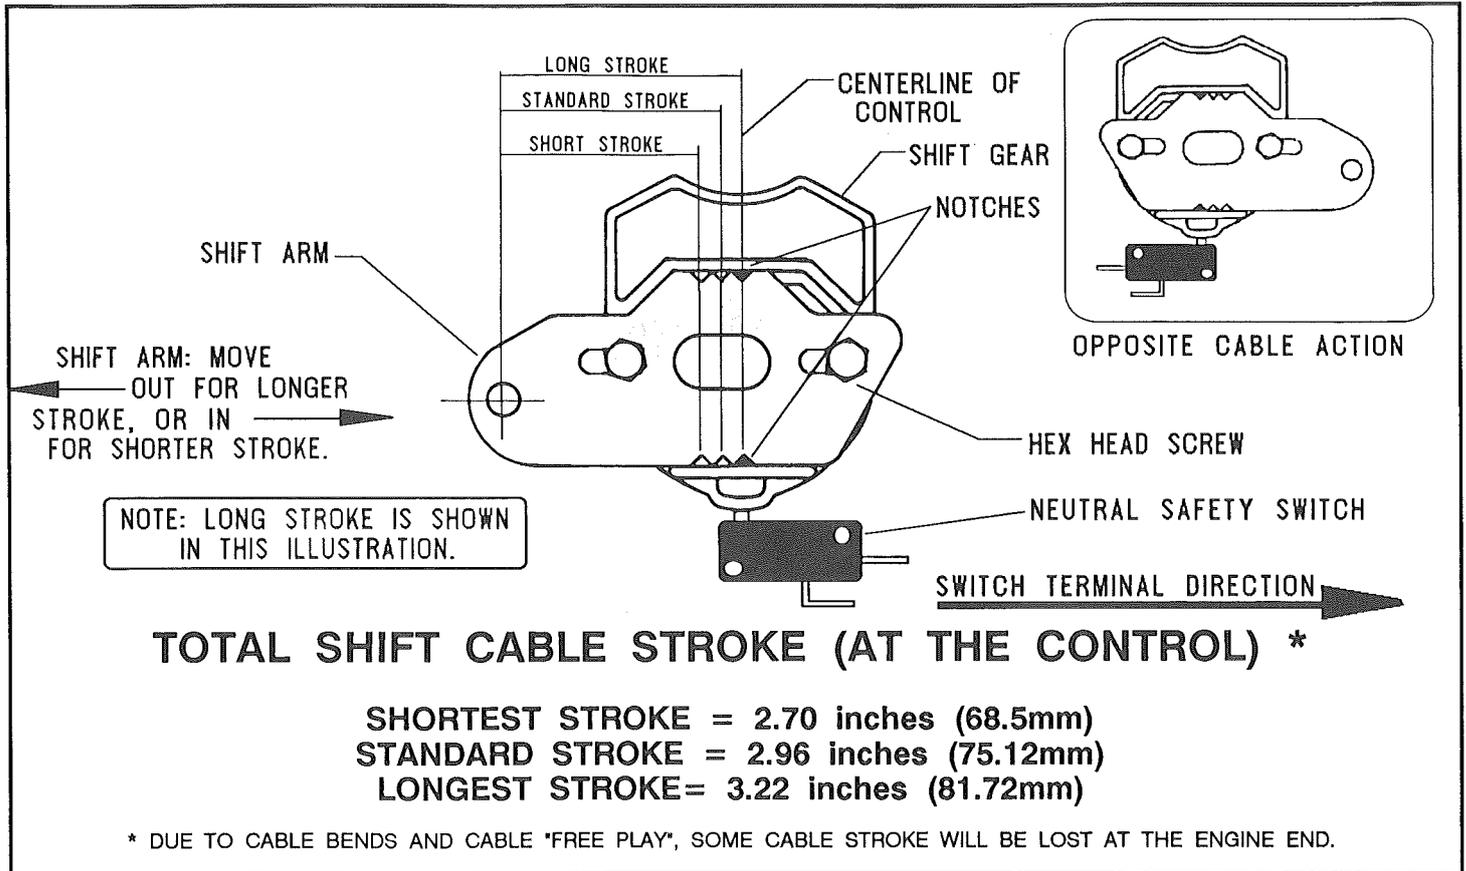

FIGURE 2
- ADJUSTABLE SHIFT STROKE TO ACCOMODATE MOST TRANSMISSION APPLICATIONS (REFER TO FIGURE 2).
The Shift Arm is factory-set for standard travel (center notch). Refer to Figure 2.
1. Loosen the two (2) Hex Head cap Screws so the Shift Arm can be lifted to clear the notches.
2. Reposition the Shift Arm to the desired stroke. Be sure the notches are properly engaged before tightening the Screws. Refer to Figure 2.